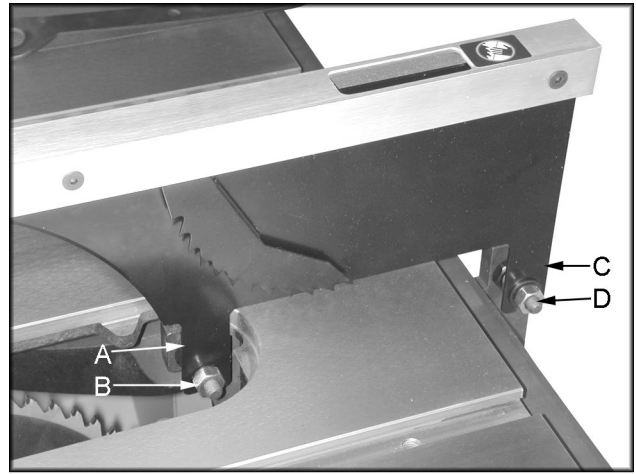
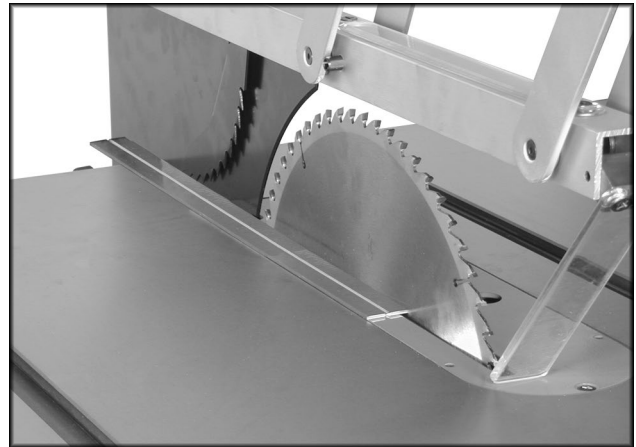
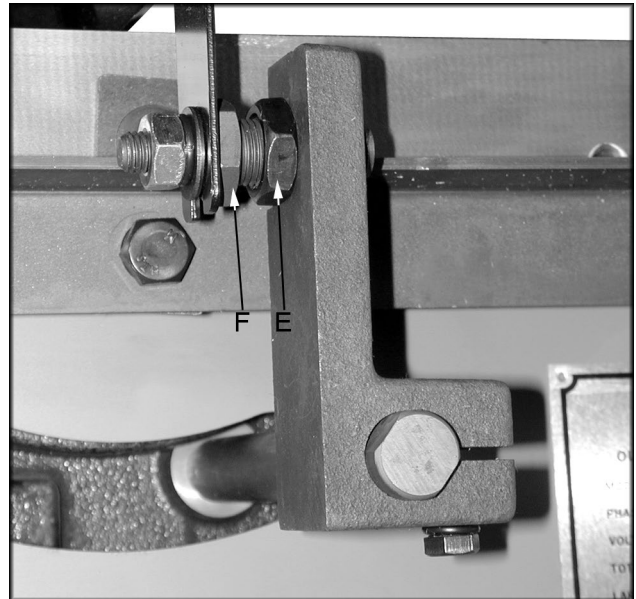

Figure 16
Figure 17
Figure 18
6. Insert front fork of blade guard assembly (A, Figure 16) through opening in the table. The tab is held in place between the flat washer and bracket, see Figure 16. Finger tighten hex nut (B, Figure 16) only at this time.
7. Insert the rear fork of the blade guard assembly (C, Figure 16) into the guard support assembly between the flat washer and shoulder, see Figure 16. Finger tighten hex nut (D, Figure 16) only at this time.
8. Place a straight edge against the splitter and blade to make sure they align, as shown in Figure 17. If adjustment is necessary use the provided wrench to loosen the jam nut (E, Figure 18) on the rear fork. Thread the guard support in, or out by turning the hex head (F, Figure 18) to bring the splitter in line with the blade. Repeat the same procedure for front fork.
9. Tighten the jam nut (E, Figure 18) and tighten the hex nut (D, Figure 16) with the provided wrenches. Repeat the same procedure for front fork. Recheck the splitter alignment and adjust if necessary.